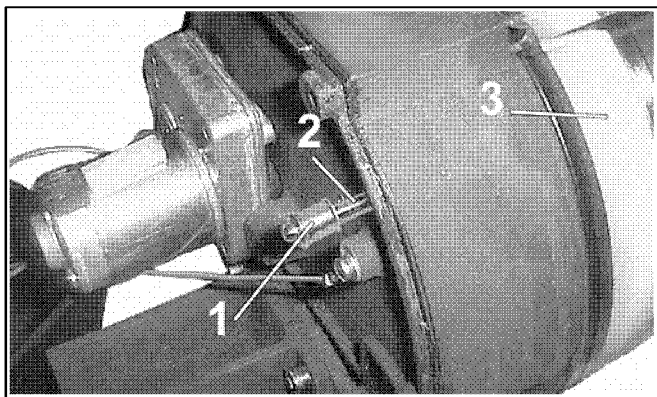

Fig. 27 Parts of the low-level indication
- The follower plate 3 (fig. 27) of the reservoir moves the pin 2 with the solenoid 1 ahead of the sensor on the printed circuit board and initiates the low-level signal.